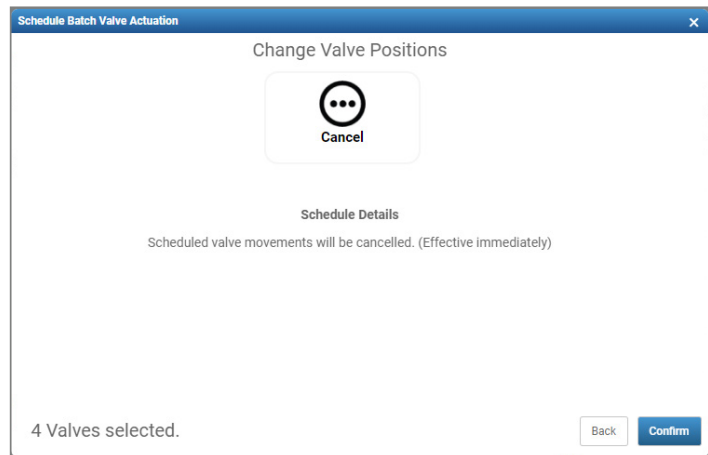

Figure 28: Confirm cancellation
4. The confirmation window opens as shown in Figure 28. Click **Confirm**.